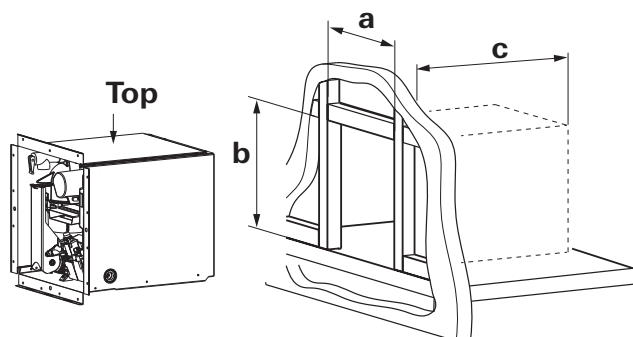

Fig. 13
4. Make sure that the front edge of the opening is surrounded by a solid frame to firmly anchor the appliance. If needed, build an appropriate frame (Fig. 13) with the following dimensions: